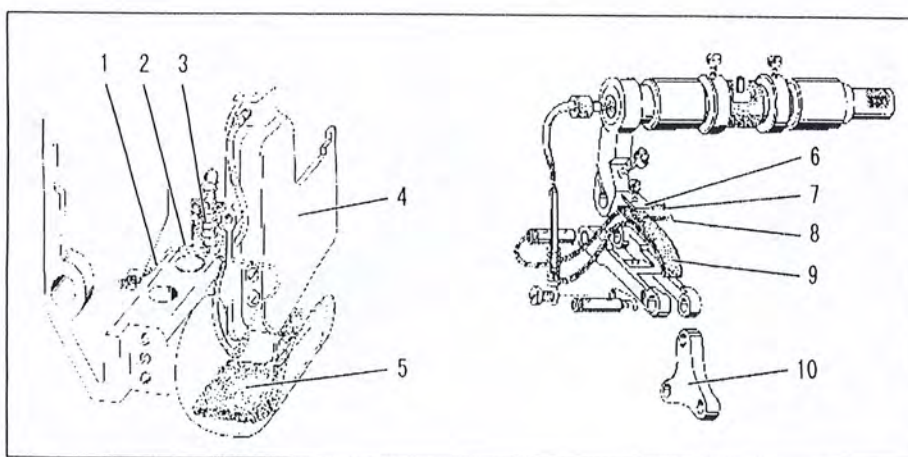

Fig.19
(2) Lubricating wicks and felt (see the Fig.19)